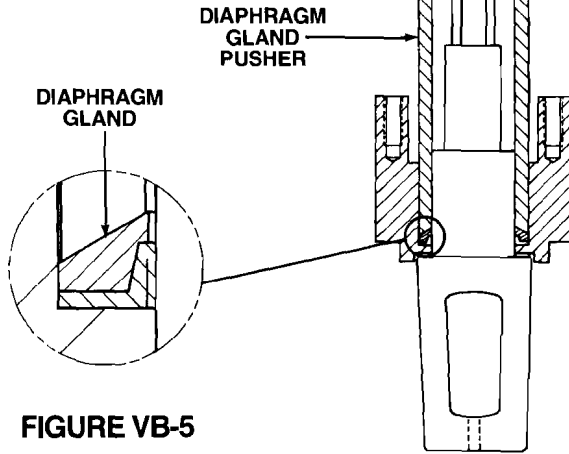

FIGURE VB-5
8. Remove the diaphragm guide and pusher from the stem. Place the diaphragm gland over the plug stem. Now locate and seat the diaphragm gland by pushing downward with the diaphragm gland pusher. (An arbor press is required to load the pusher.) See Figure VB-5.